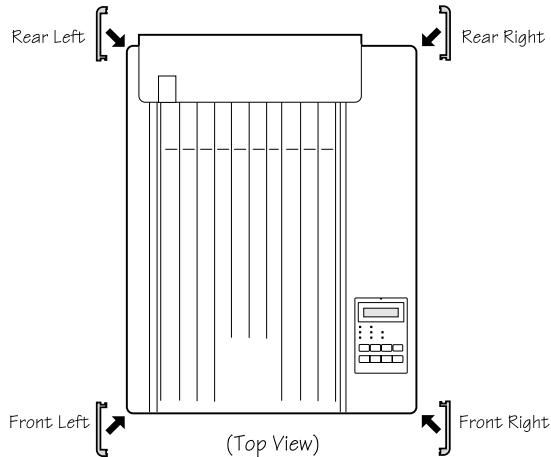

Fig. 8.3 Attach the Corner Brackets
6. Snap the plastic brackets onto the appropriate corners of the sheet feeder (fig. 8.3). These brackets have small rims on the bottom that fit inside the edges of the sheet feeder.